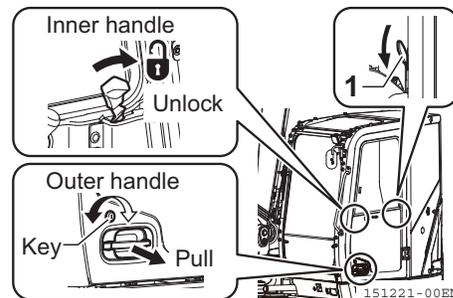

Fig. 2-98
1. Pull the lever (**Fig. 2-98, 1**) downward to unlatch the side door.